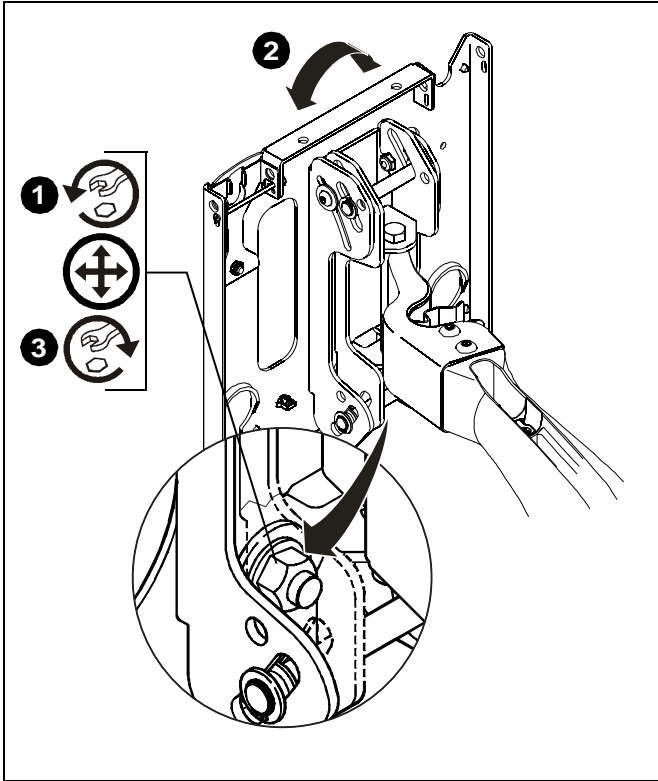

Figure 10
1. Loosen the roll tension adjustment nut located on the back side of the faceplate assembly. (See Figure 10)
3. Tighten roll tension adjustment nut. (See Figure 10)